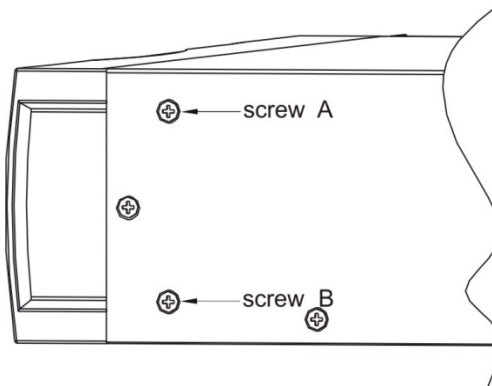

Figure 9 Cabinet bracket assembly
- ③ screw the two M4 screws described as Fig 9 (symmetrical on both sides, a total of four).